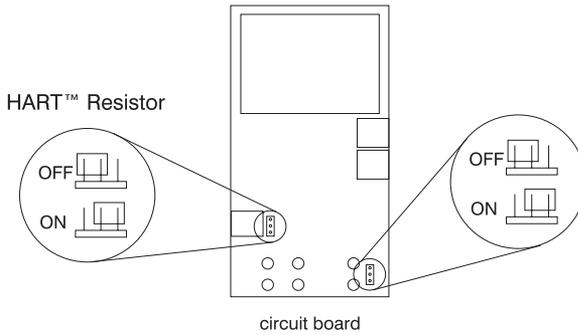

Figure 10a.
4. Figure 10a. shows the location of the Hart® jumpers.